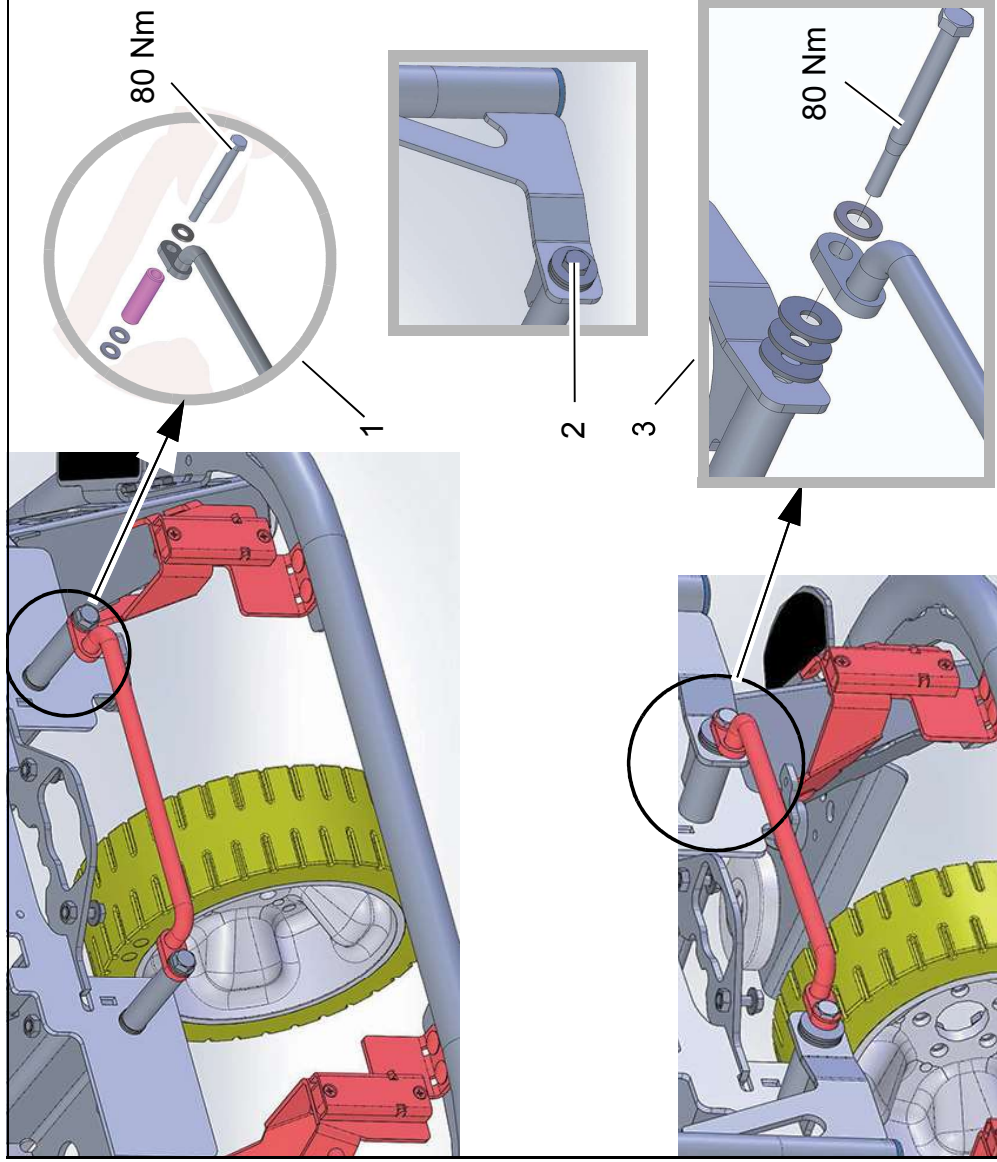

Fig. 2
Fit bracket to chassis, each with M12x120 screw, spacer and three A13 washers (Fig. 2/1).
1. Undo the two screws one after the other at the front of the overhead guard (Fig. 2/2).
2. Screw bracket to holder of overhead guard using three existing washers, the A13 washer and the existing M12x120 screw (Fig. 2/3).